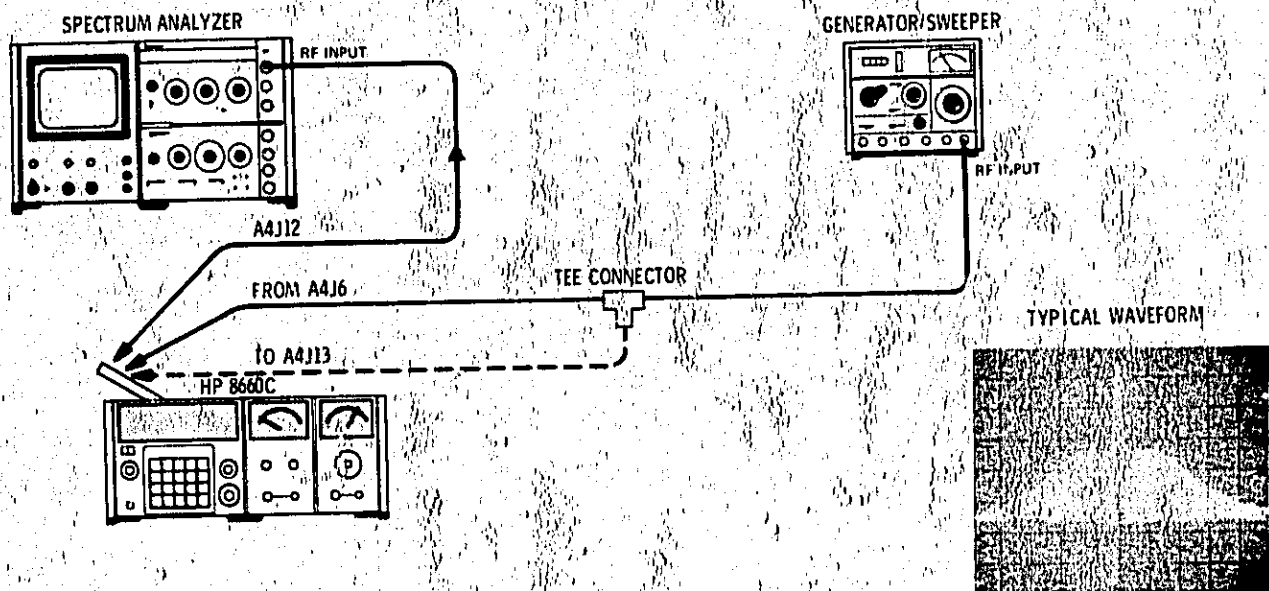

Figure 5-12. Loop Gain Adjustment Test Setup
4. Loop Gain Adjustment (see Figure 5-12).
c. Set the Signal Generator/Sweeper to 11.5 MHz CW at -35 dBm and symmetrical sweep width to 3 MHz. The analyzer display should be approximately as shown in the typical waveform shown in Figure 5-12. Adjust the A4A6 GAIN control (A4A6R2) for the response shown.